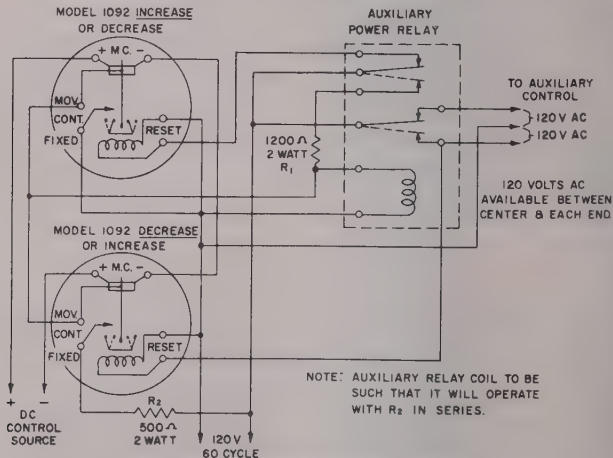

Figure 11. Automatic High-Low Control
1. Automatic High-Low Control (See Figure 11).